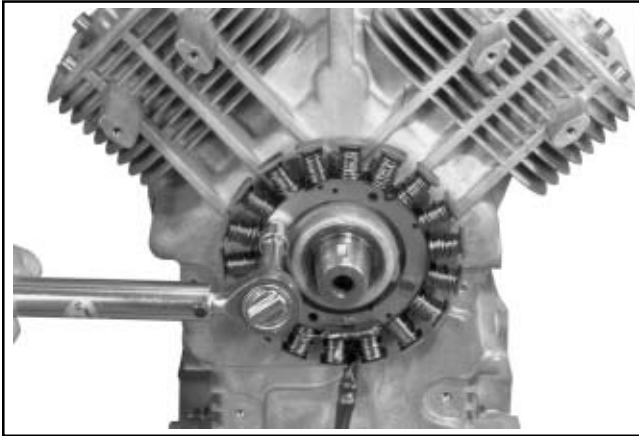

Figure 11-23. Torquing Stator Screws.
- Install and torque the two hex. flange screws to **6.2 N·m (55 in. lb.)**. See Figure 11-23.